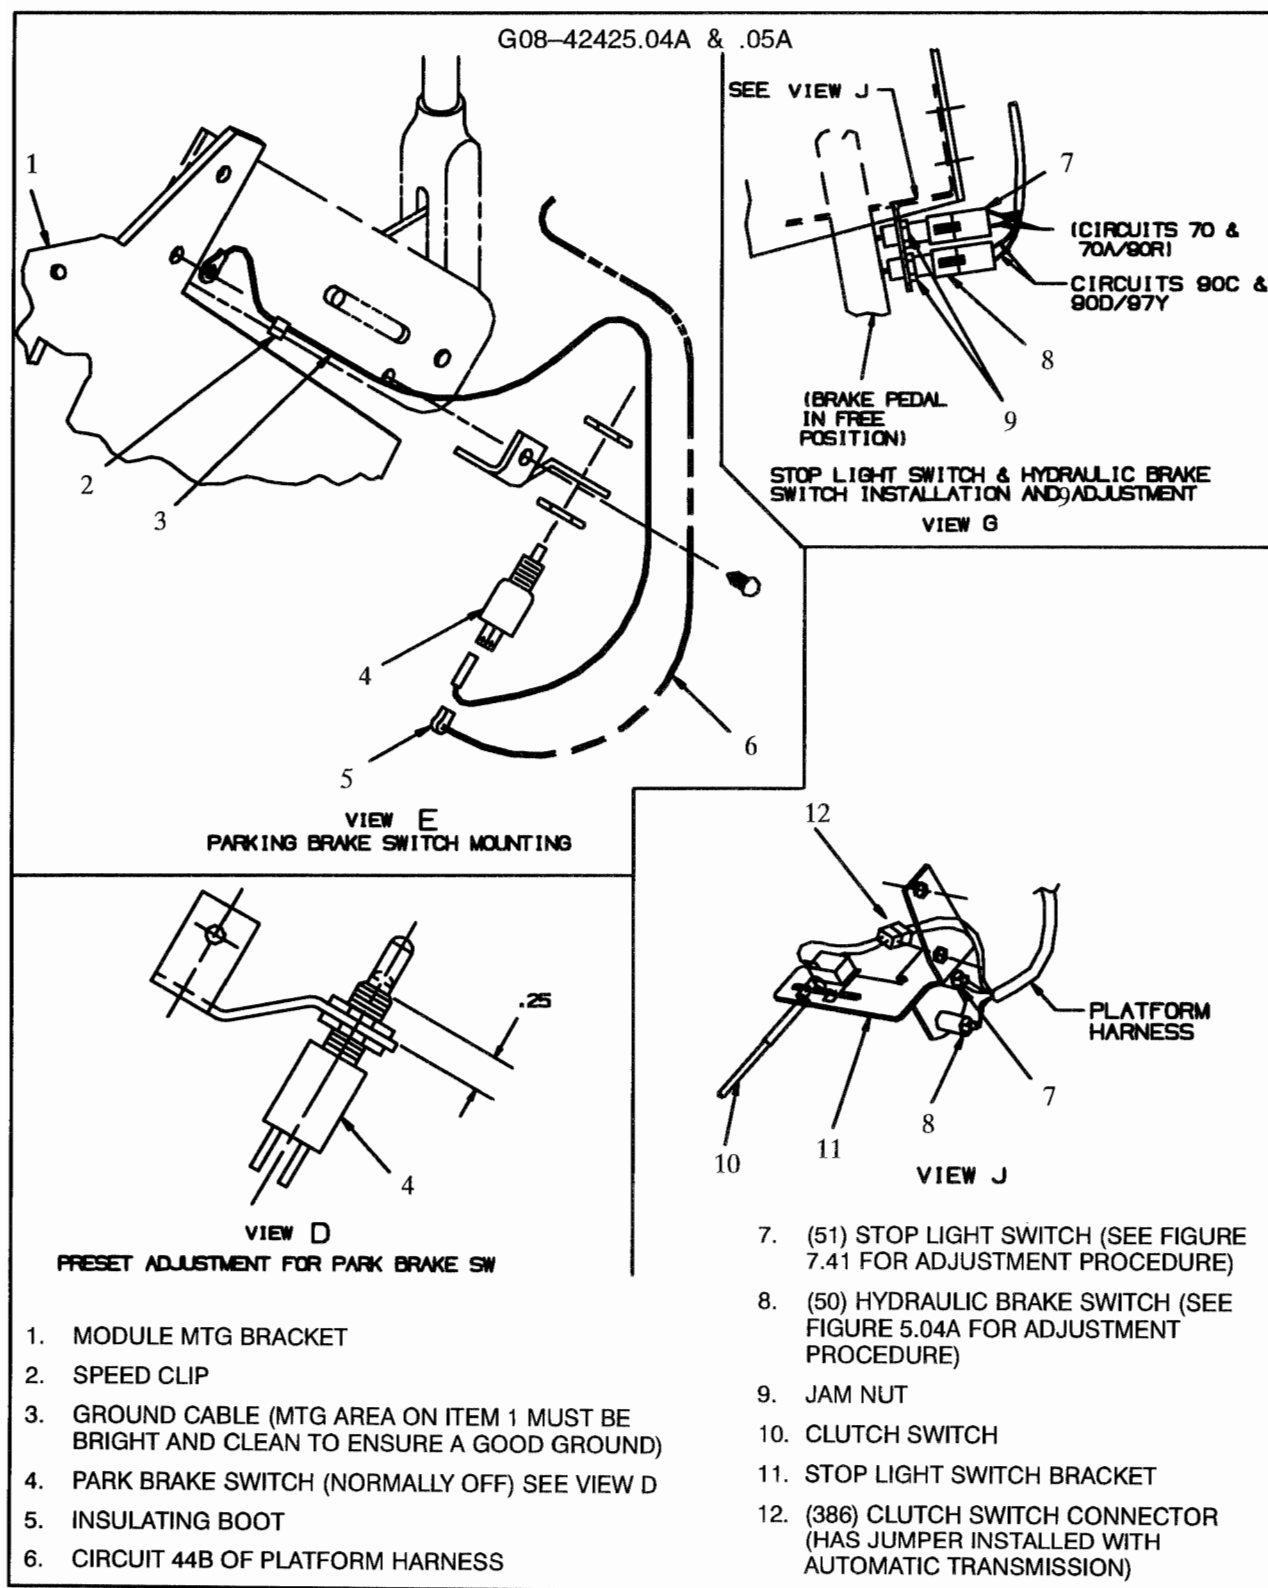

Figure 7.40 – Park Brake Switch Installation & Adjustment
| 14. (20) ALARM WARNING BUZZER | 30. CIR 44 TO PARK BRAKE SWITCH – FIGURE 7.40 |
| | 35. STOP LIGHT SWITCHES – FIGURE 7.40 |